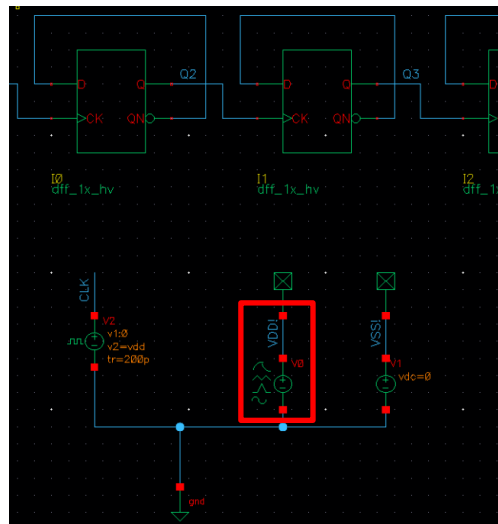

Figure 9: Select voltage source from schematic
- To plot the power supply to the output transfer function, select the VDD supply source in the schematic as shown in Figure 9.